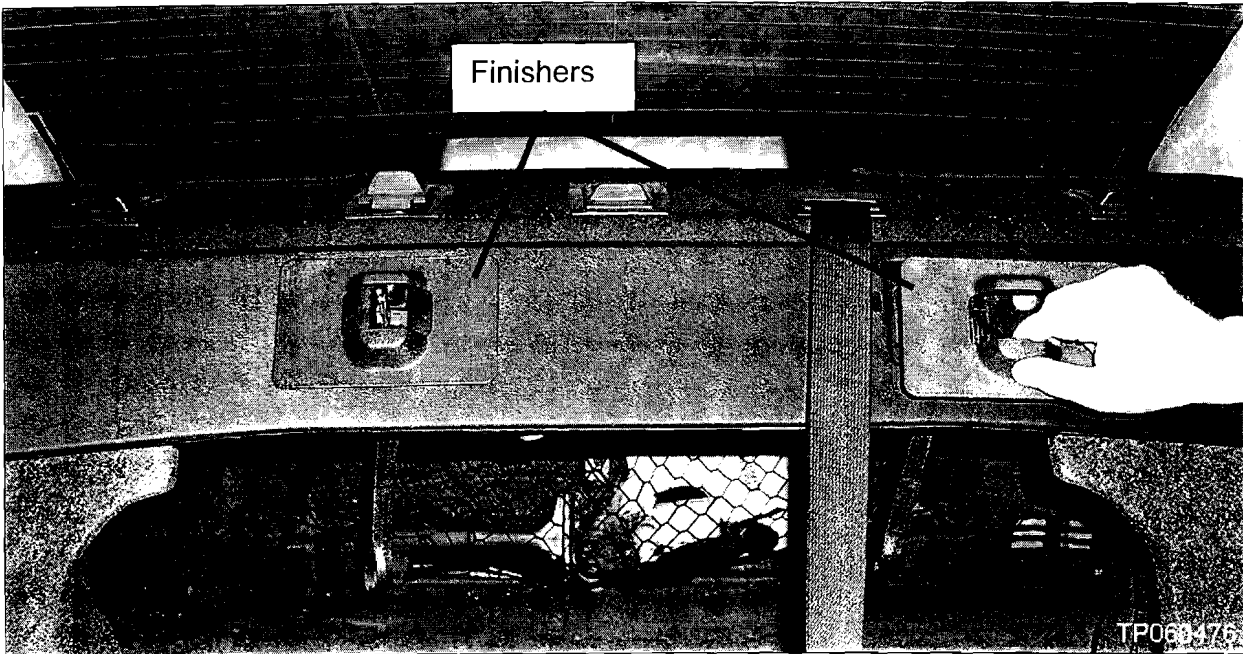

Figure 5
c. Remove the finishers shown in Figure 5.